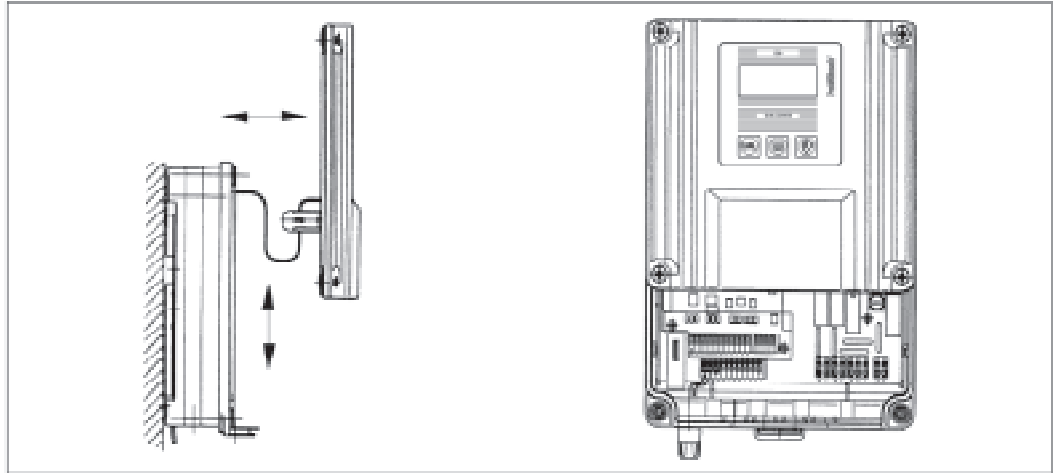

Figure 2: Opening controller
- ▶ Open the housing: (see fig. 2)